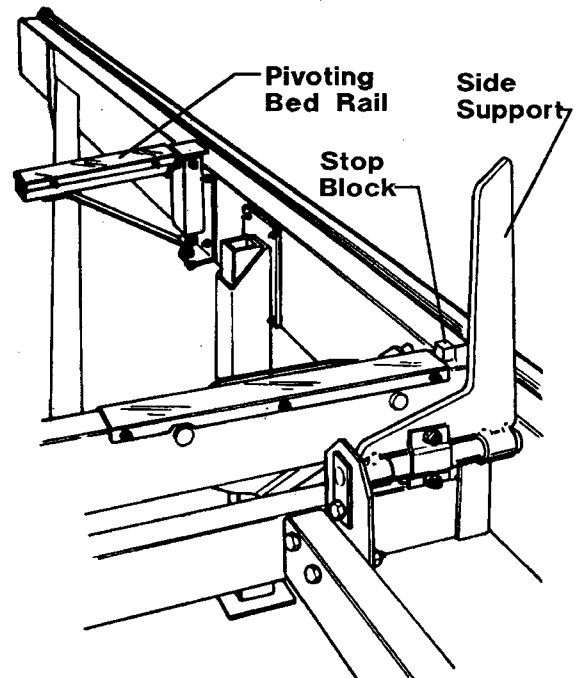

FIG 3-3
When using the optional winch, always have the side supports at their highest position (See Figure 3-3). Only two side supports should be used when the log is first being clamped so that it seats firmly against two points closest to the ends of the log. Center the log at the base of the ramps. Feed the winch cable through the cable guides to the idle pulley found just right of the clamping dog receiver. Route the cable through the idle pulley and out to the log to be loaded. Let out enough cable to wrap over the top of the log and come back underneath the log to secure the cable to the locking dog receiver. When winding in loose cable, keep tension on cable with free hand to avoid snarling and pinching the cable when it has load on it. Never stand behind the log while being winched to avoid injury as the log would roll back down ramps if cable broke. Winch the log up the ramps and onto bed of the mill. Leave the cable around the log until it is firmly secured with the clamping dog. Logs may also be loaded with a tractor or other equipment specifically designed for that purpose. Pivoting bed supports are located on the each of the main frame to support logs or boards that tend to sag on the ends.
4. Secure log to desired angular position by placing the clamping dog in the closest possible hole to the log with the handle to the right. The arm of the clamping dog should be swung to the operator's left until the cam forces the log firmly against side supports. Place the locking chain into the slot of the clamping dog arm (See Figure 3-4). The slots on the side of the post allow you to set the height of the clamping dog low enough to clear the saw carriage. The clamping dog is typically required only when the log is resting on a rounded portion. Once the log is resting on a flat, the weight of the log is usually sufficient to hold it in position. When a square cant is achieved, the side supports may be lowered and the cant positioned against the welded stop blocks for maximum throat capacity (Refer to Figure 3-3).